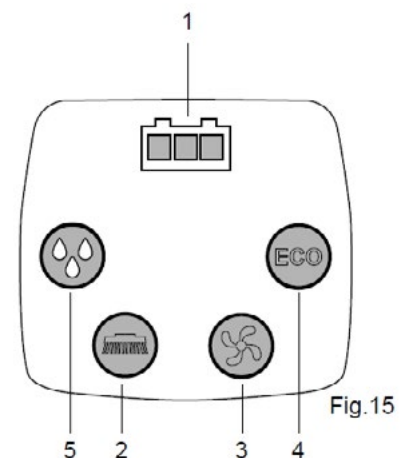

Fig.15
- Battery charge indicator (**battery powered models only**) (fig. 15, ref. 1): consists of **3 Leds**, red, yellow and green, showing the **battery charge level**. Possible charge level indications:
- Brush control button (fig. 15, ref. 2): enables (Led alight) and disables (Led dark) operation of the “Brush” function; the brush does not start rotating until the “Brush control lever”(fig. 15, ref. 2) is operated.
- Suction control button (fig. 15, ref. 3): switches on (“Led ON”) and switches off (“Led OFF”) the suction motor, which generates the vacuum needed to dry the floor after scrubbing. The motor comes into operation only when activated by way of the “Brush control lever”.
- Detergent flow button (fig.15, ref. 5): enables (Led ON) and disables (Led OFF) the flow of detergent solution, with three levels of delivery available. Flow is enabled only with the brush in operation.
- ECO button (fig.15, ref. 4): enables (Led ON) and disables (Led OFF) ECO operating mode.